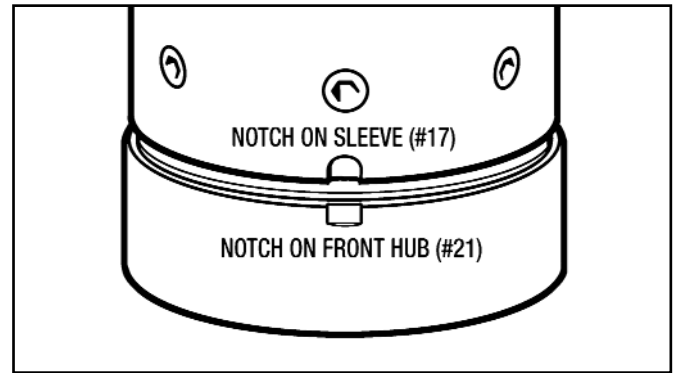

Figure 7.15 Correct Alignment of Notches
The Maximum Offset Dimension (X_{MAX}) and the Minimum Offset Dimension (X_{MIN}) must be measured to determine the Average Offset Dimension (X_{AVG}). Use a set of Calipers as shown in *Figure 7.15*.
2. Take the (2) L-Clamps off and lift the *SmartPac* Assembly off the Support Fixture. Set the assembly back in the vertical position with the Front Hub pointing downward.
5. Place the Sleeve (#17) over the assembly. Attach with a couple of Flat Hd. Screws (#15) to check alignment. The notches should be aligned as shown in *Figure 7.15*.
6. Clean the (6) Flat Head Screws (#15) with **Loctite Primer T**. Apply a little **Blue Loctite #242** to the screws and install them into the Sleeve (#17). **Torque to 14 Ft. Lbs.**